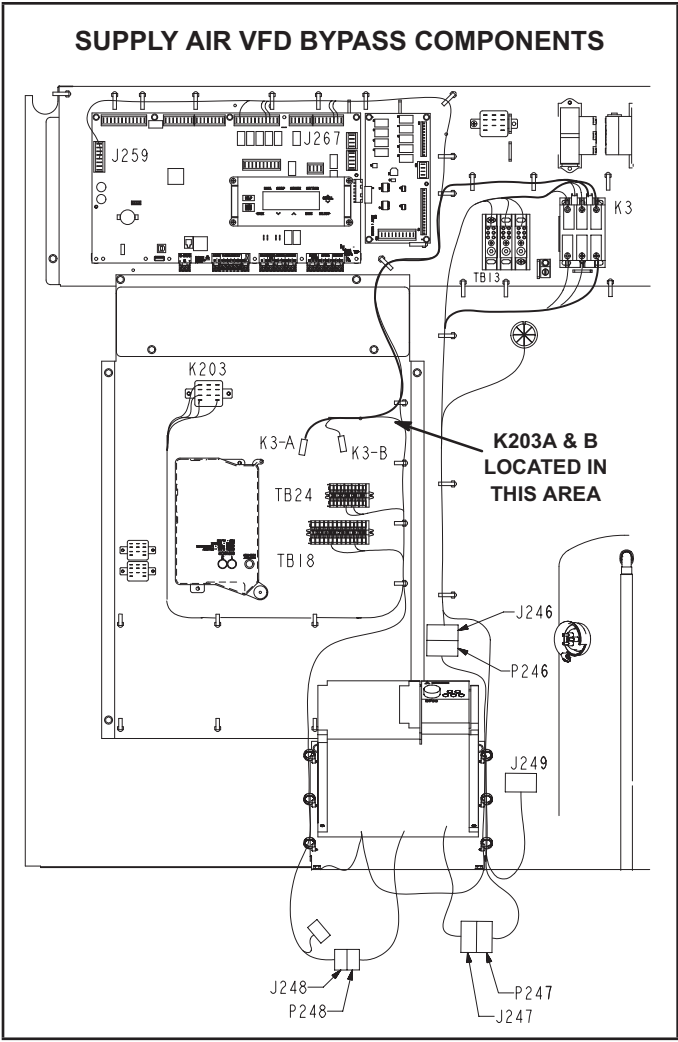

FIGURE 42
- 5 - Locate VFD control relay K203 on the lower control panel next to terminal strip TB24. See FIGURE 42.
- 6 - Locate wires labeled K203-A and K203-B in area shown in FIGURE 42. Disconnect insulated terminals.